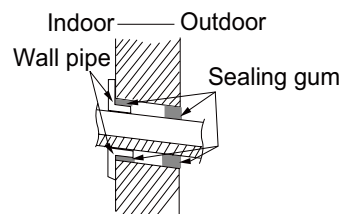

Fig.14
- (1) Put the bound pipes in the wall pipe and then make them pass through the wall hole.
- (2) Hang the indoor unit on the wall-mounting frame.
- (3) Stuff the gap between pipes and wall hole with sealing gum.
- (4) Fix the wall pipe. (As show in Fig.14)